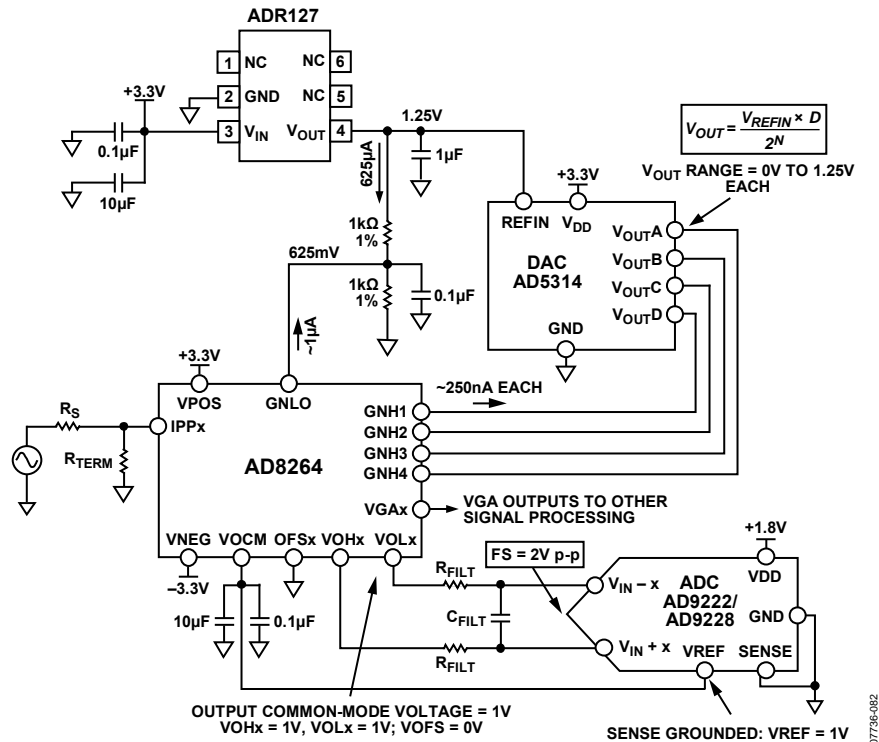
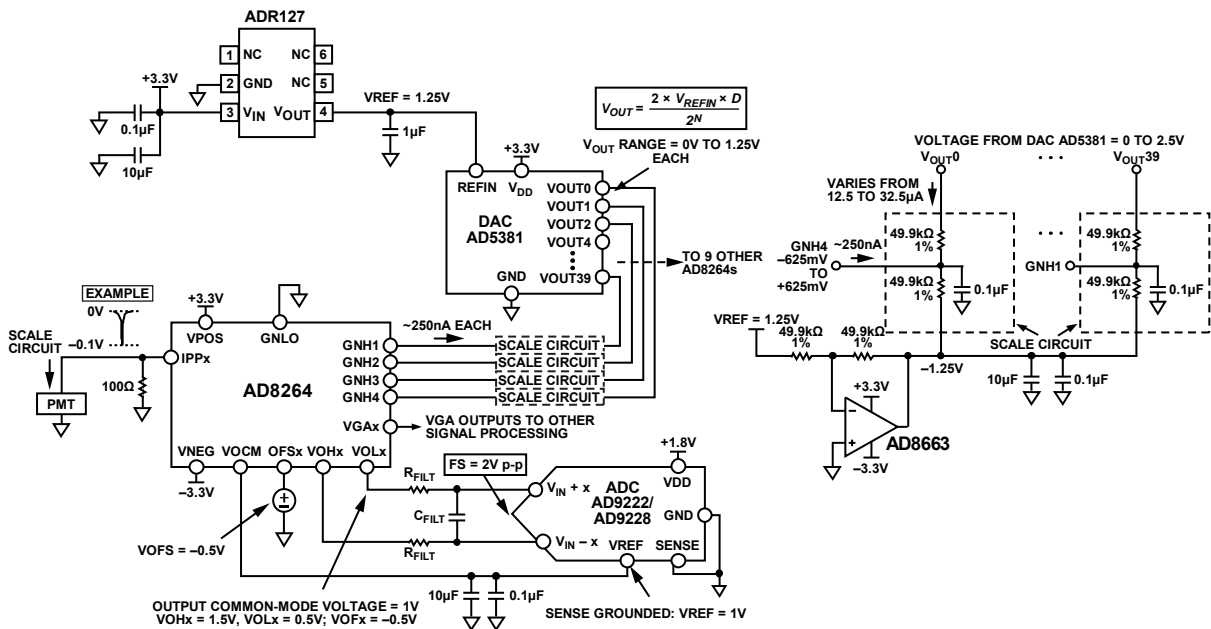

Figure 112. Application Concept of the **AD8264** with the **AD5314** 10-Bit DAC and the **AD9222/AD9228** 12-Bit ADC
Figure 113. Concept Application of AD8264 with 40-Channel AD5381 12-Bit, 3 V DAC and AD9222/AD9228 12-Bit ADC
The **AD8264** is particularly well suited for use in the analog front end of medical PET imaging systems. Figure 112 shows how to use the **AD8264** with the **AD5314** (a 4-channel, 10-bit DAC) and the **AD9222/AD9228** (an octal or quad, 12-bit ADC, respectively). The DAC sets the gain of the **AD8264**. Note that the full gain span of 24 dB is achieved with this setup because the gain control input range of the **AD8264** is very close to 1.25 V. The GNLO pin must offset by  $1.25/2 = 625 \text{ mV}$  because the gain control input is bipolar around the voltage applied at GNLO. This is done with two 1 k $\Omega$ , 1% resistors. The approximately 1  $\mu\text{A}$  of bias current flowing from the GNLO pin does not contribute a significant error because the basic gain error of the **AD8264** is the limiting factor.
Figure 112 also includes the DAC output equation, which indicates that the output can vary between 0 V and  $V_{REF} = 1.25 \text{ V}$ .
The single-ended-to-differential amplifier of the **AD8264** amplifies the VGA output signal by 6 dB and can provide the required dc bias of the **AD9222/AD9228**, as shown in Figure 112. The ADC is connected with the default internal reference because the SENSE pin is grounded. With this connection, the **AD9222/AD9228**  $V_{REF}$  pin is an output that provides 1 V; this is then connected to the  $V_{OCM}$  input of the **AD8264**, which sets the output common-mode voltage of the  $V_{OHx}$  and  $V_{OLx}$  pins to 1 V. This voltage is very close to the recommended optimal value of  $V_{DD}/2 = 0.9 \text{ V}$ . With this configuration, the ADC inputs are set to a full-scale (FS) of 2 V p-p.
The dc connected concept example in Figure 113 is an application with the 40-channel AD5381, 3 V, 12-bit DAC. The main difference between this example and Figure 112 is that, for the same ADR127 1.25 V reference, the full-scale output of the DAC is from 0 V to  $2 \times V_{REFIN} = 2.5$  V. Two options for gain control include the following:
- Use the same circuit as in Figure 112 but use only half the DAC output voltage from 0 V to 1.25 V. This is the simplest solution, requiring the fewest extra components. Note that the overall gain resolution increases by one bit to 11 bits over the 10-bit AD5314.
- Ground GNLO and scale the DAC output so that the GNHx inputs vary from  $-0.652$  V to  $+0.625$  V. Figure 113 shows a possible circuit implementation using a divider between the DAC output and a  $-1.25$  V reference.
Figure 113 shows how the AD8264 is connected in a PET application. The PMT generates a negative-going current pulse that results in a voltage pulse at the preamplifier input and a differential output pulse on VOLx and VOHx.
A convenient method of verifying and customizing the signal chains shown in Figure 112 and Figure 113 is by ordering the corresponding evaluation boards available on [www.analog.com](http://www.analog.com). The AD8264-EVALZ is a platform through which the user can quickly become familiar with the features and performance capabilities of the AD8264. See the Evaluation Board section for more information.